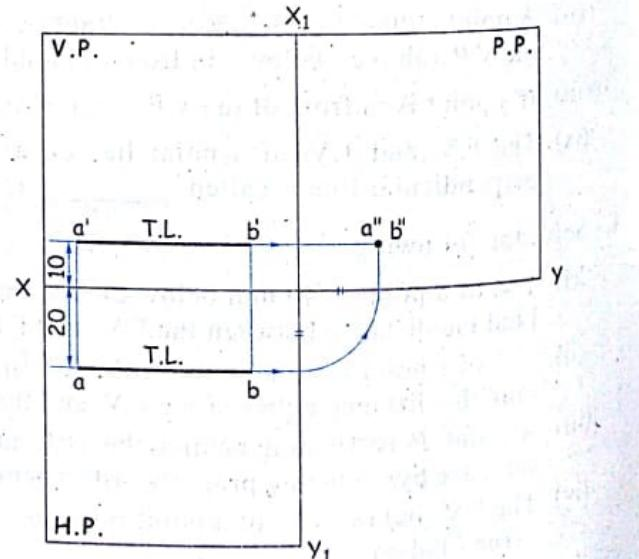

FIG. 8.2 (b)
- The end points A and B of line AB are projected on the V.P., the H.P. and the P.P. It gives the projections F.V. ($a'b'$), T.V. (ab) and S.V. ($a''b''$) as shown in figure 8.2 (a).